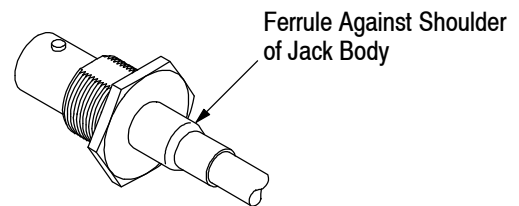

Figure 5
6. Slide the ferrule over the cable braid and support sleeve of the jack body until it is positioned against the shoulder of the jack body. See Figure 5.